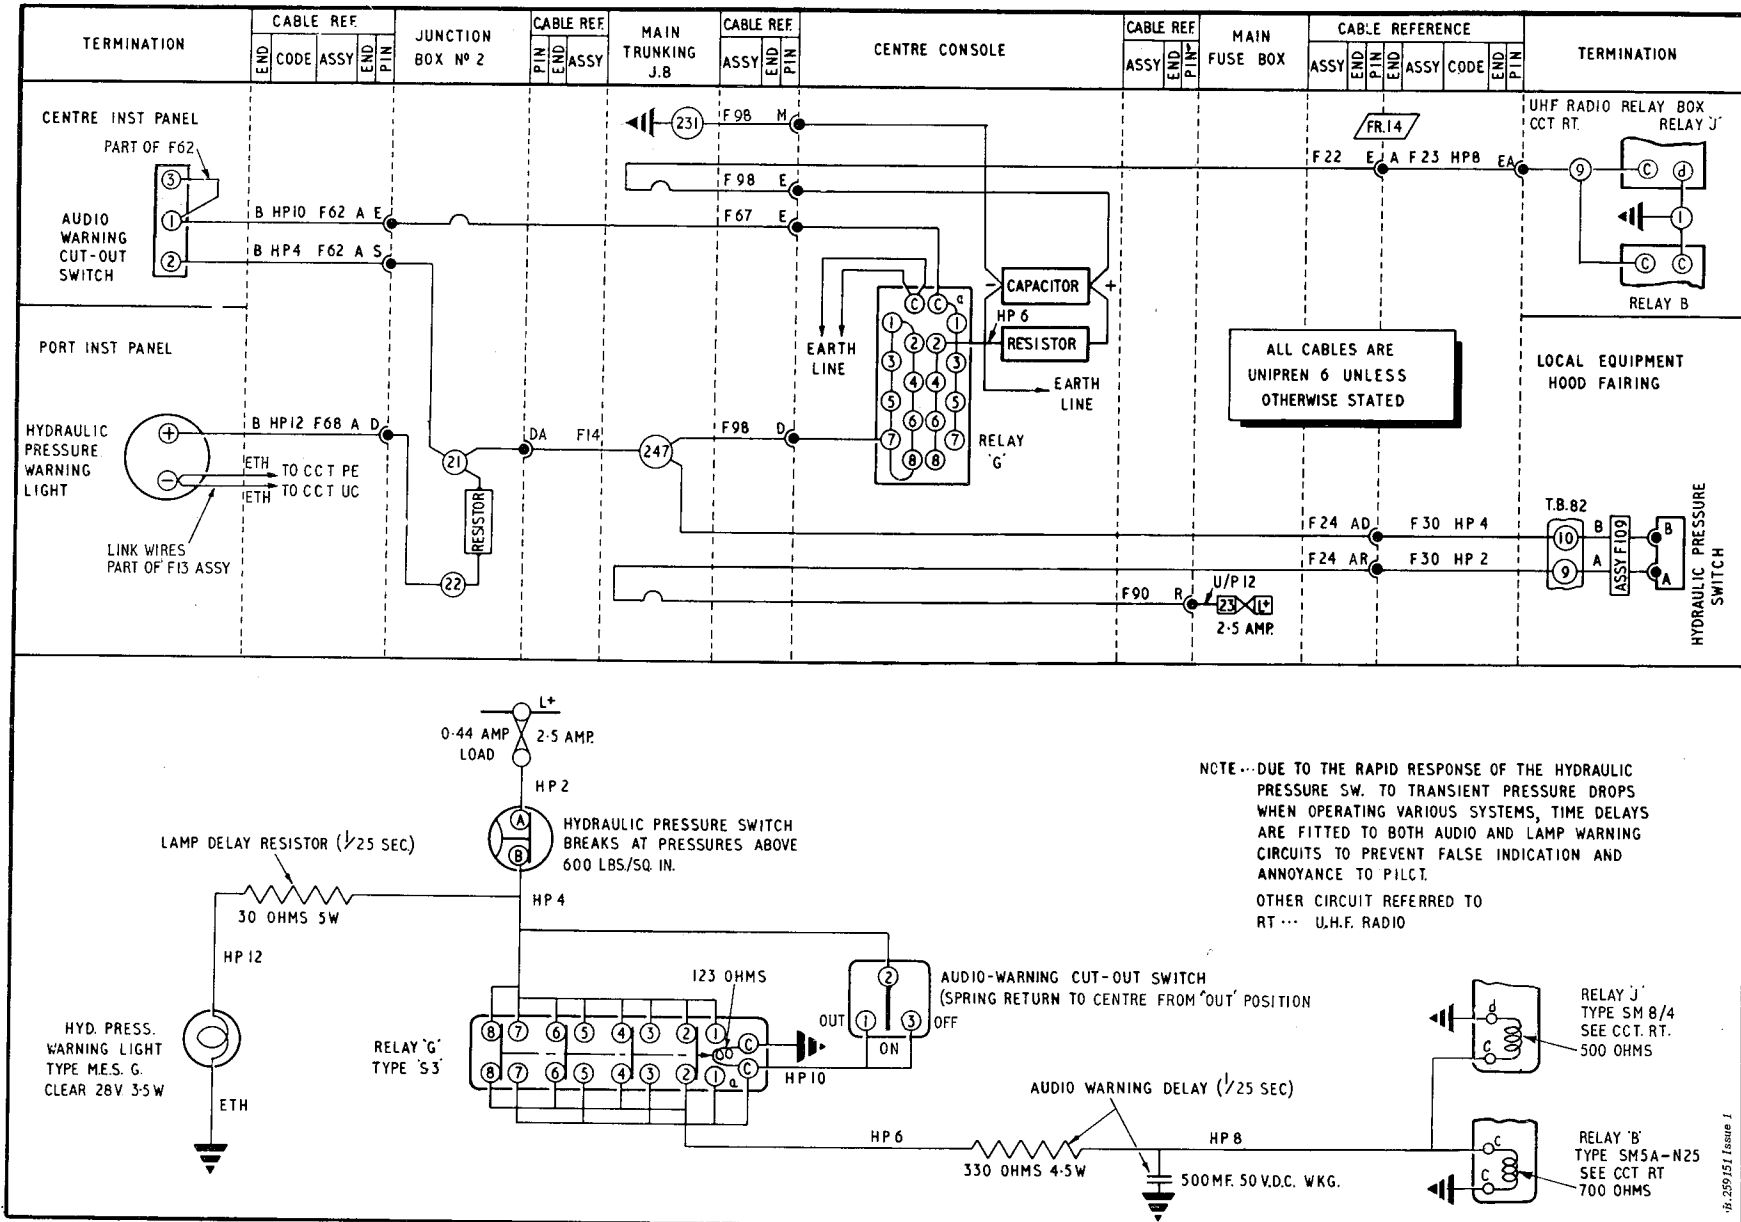

Fig.4. Hydraulic pressure warning (routeing and theoretical)
9. These warning devices are controlled by a pressure switch in the hydraulic pipeline in the hood fairing. The switch contacts close when the system pressure drops below 600 lb./sq.in., but to prevent annoyance by the warning devices operating due to transient pressure drops while hydraulic services are functioning, resistance and capacity delay networks are provided in the supply lines. The supply to the audio warning is taken through relay G in the centre console, and is cut off when the relay is energized through a single pole, centre ON, switch on the centre instrument panel. Once energized, relay G forms its own hold-on circuit, supplied through the hydraulic pressure switch. The cut out switch has a spring return to centre ON from the OUT position so that in the event of hydraulic pressure being restored the system is returned to the normal condition to indicate any subsequent pressure failure. Selecting OFF at the cut out switch completely overrides the audio warning. The supply to the warning lamp is controlled by the pressure switch only and is unaffected by the operation of the cut out switch. A routing and theoretical diagram of the warning devices will be found in fig.4.